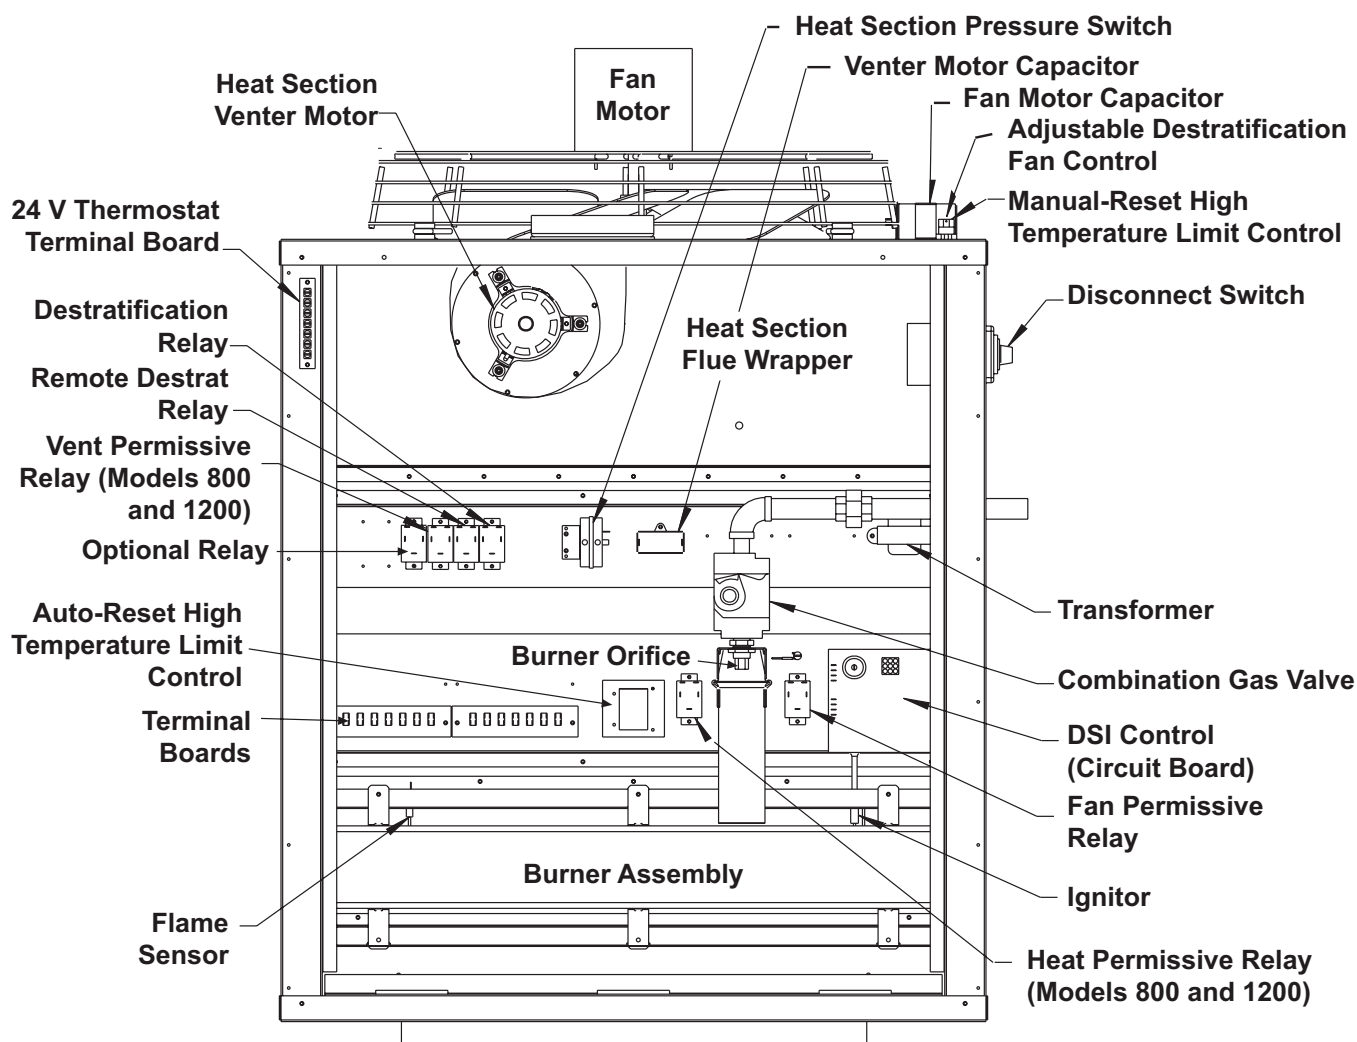

Figure 15. Component Locations (Typical)
Locations for the following controls are shown in Figure 15.
- The heat section (combustion air proving) pressure switch (see Figure 15 for location) is a pressure-sensitive switch that monitors air pressure to ensure that proper combustion airflow is available. The switch is a single-pole/normally-open device that closes when a differential pressure is sensed between the venter housing and the flue collection box. Each section in the heater has a pressure switch. In addition, heaters with more than one heat section (unit sizes 800 and 1200) have a flue collection box section pressure switch that senses the negative pressure in the main venter housing.
The automatic-reset high temperature limit control (see Figure 15 for location) provides protection in the case of motor failure or lack of airflow due to a restriction at the inlet or outlet.
The manual-reset high limit control is located at the top of each heat section (see Figure 15 for location). If the setpoint is reached, the control interrupts the electric supply to the combination gas valve in that heat section. If the control activates, identify and correct the cause before resetting the switch (refer to TROUBLESHOOTING section).
Each heat section in the heater has a combination gas valve (see Figure 15 for location): unit size 400 has one, unit size 800 has two, and unit size 1200 has three. The combination gas valve is powered by the 24V control circuit through the thermostat and safety controls. The diaphragm-type valve is pre-set at the factory and provides regulated gas flow.
Each heat section in the heater has a fan motor (see Figure 15 for location): unit size 400 has one, unit size 800 has two, and unit size 1200 has three. The fan motor is equipped with automatic-reset thermal overload protection. If the motor does not run, the cause may be due to improper current. Ensure that the correct voltage is available at the motor.